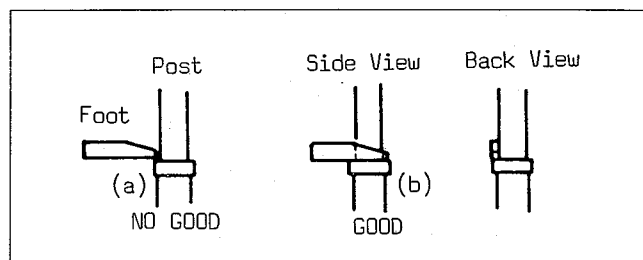

Fig. M7-3
4. Set the fixture to zero "0" and slowly raise the post until it just touches the foot. When the foot touches the post, it should fit as shown in Fig. M7-3 (b). For adjustment of P2 and P3, use the Post Adjustment Screwdriver.